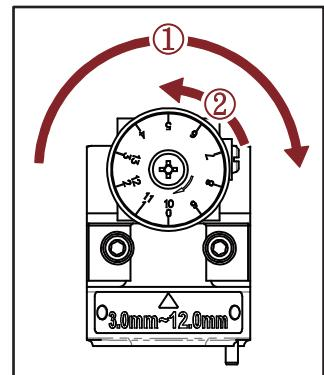

Fig. 6-1
- Right Positioning Shelf:  $\Phi 3.0 \text{ mm} - \Phi 12.0 \text{ mm}$  (Fig. 6-1)